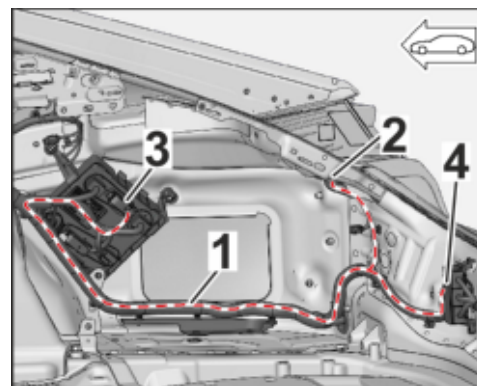

Figure 8
Overview of routing of wire harness for module FGR_ri: ⇒ Figure 8
- Remove branch (wire harness) for tail light with grommet (⇒ *Figure 8 -2-*).
- Route branch for BCM2 to BCM2. ⇒ *Figure 8 -3-*